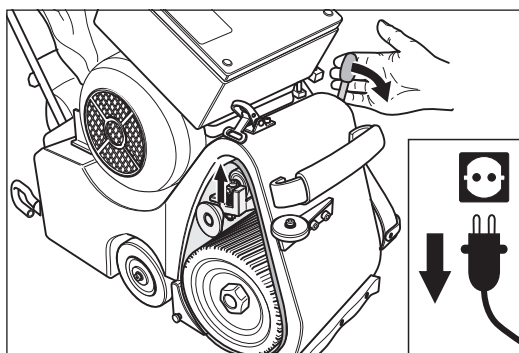

Fig. 18 Tension the sanding belt by lowering the operating lever. Otherwise, damage or injury can occur!
- 12 To tension the sanding belt, press the operating lever of the drive unit downwards (fig. 18). **Otherwise, damage or injury can occur!**
- **Always** tension the sanding belt before switch on the machine (fig. 18)!